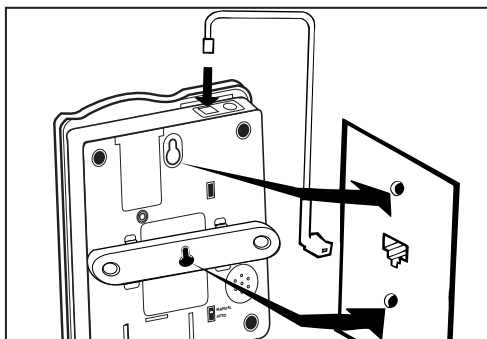

Figure 7 - Wall mounting installation
3. Plug in the short phone line cord and mount the phone as shown in Figure 7.